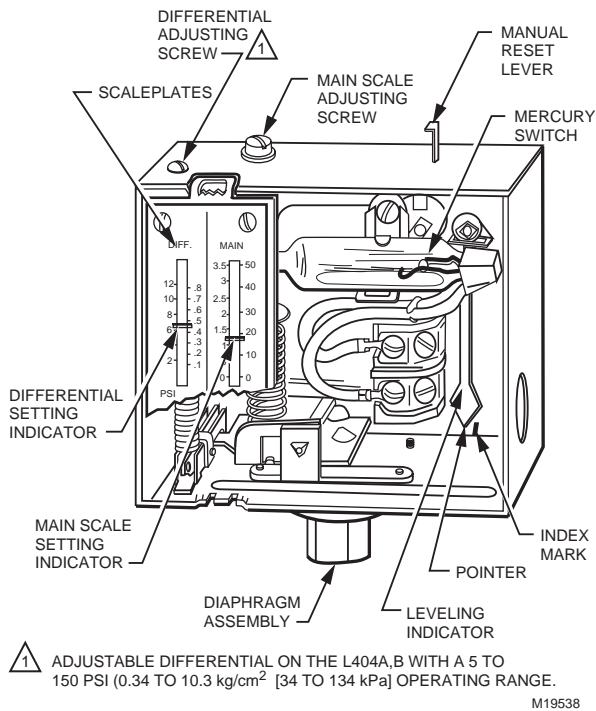

Fig. 7. Setting a Pressuretrol® Controller.
A controller with a mercury switch must be accurately leveled for proper operation. It is level when the leveling indicator (see Fig. 7) hangs freely with its pointer directly over the index mark inside the back of the case. Level the controller by carefully bending the steam trap (siphon loop).
The L404B is recommended for this application. It makes a circuit when the pressure rises to the setpoint and breaks when the pressure falls to the setpoint minus the differential (Fig. 7).
Adjust the main scale set point for the desired operating pressure by turning the main scale adjusting screw (Fig. 7) on the top of the case until the main scale setting indicator is at the desired value. On an L404A (except the L404A1651, which has a fixed differential) or L404B, adjust the differential setting by turning the differential adjusting screw (Fig. 7) until the differential setting indicator is at the desired value. The scaleplates are marked psi and kg/cm².
2. Turn the main scale adjusting screw (Fig. 7) until the main scale setting indicator on the controller corresponds to the boiler pressure gauge reading.
5. If the controller is operating properly, turn the main scale adjusting screw (Fig. 7) until the main scale setting indicator is at the desired set point.
The controller was carefully calibrated during manufacturing and should not require recalibration. Most calibration errors are caused by improper leveling. The controller should be level when the pointer on the leveling indicator is directly over the index mark (Fig. 7). In some cases, the leveling indicator may not be accurate enough. The pointer may be over the index mark, but the controller still may not be operating within the tolerance of its scale setting. In this case, carefully bend the steam trap (siphon loop) until the controller switches properly.